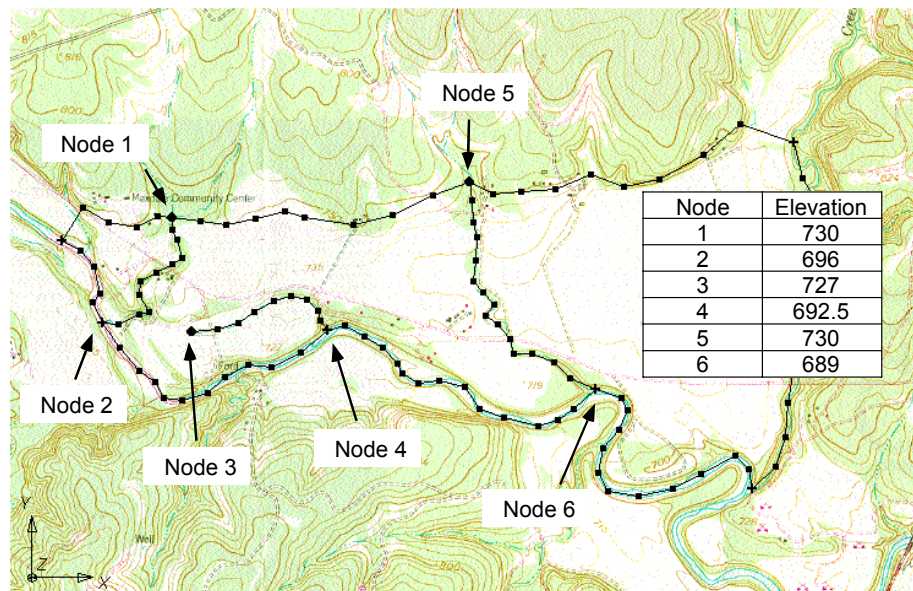

Figure 4-5 Elevations for Drain Nodes.
2. Double click on Node 2 in Figure 4-5. Notice that this node has 2 properties associated with it since it is attached to 2 arcs of different types.
4. Repeat this procedure to assign the drain elevations to the nodes shown in Figure 4-5. Be sure to change the *drain* property only, and NOT the *spec. head* property.